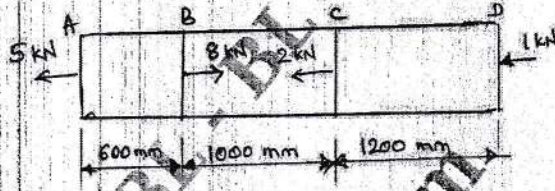

Fig.Q1(c)
- A brass bar having cross-sectional area 1100 mm² subjected to axial force as shown in Fig.Q1(c). Determine the total elongation of the bar by assuming the modulus of elasticity as 106 GN/m².